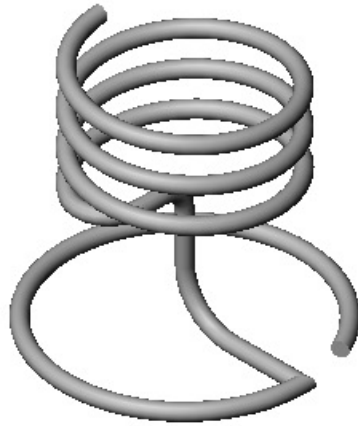

Figure 13 Candle Holder model as Sweep Feature.
40. The final feature should look similar to that shown in figure 13.